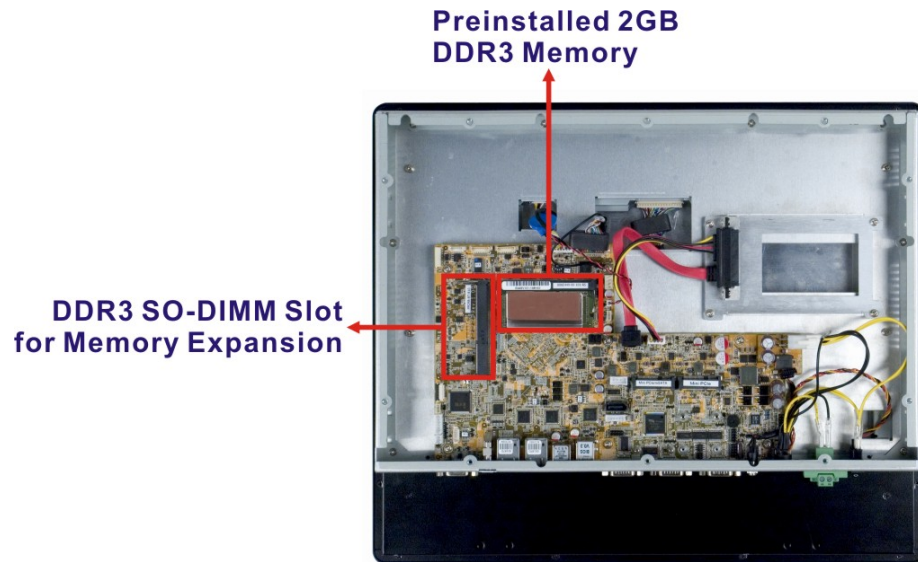

Figure 3-2: SO-DIMM Slot Location
Step 2: Locate the SO-DIMM socket. See **Figure 3-2**.